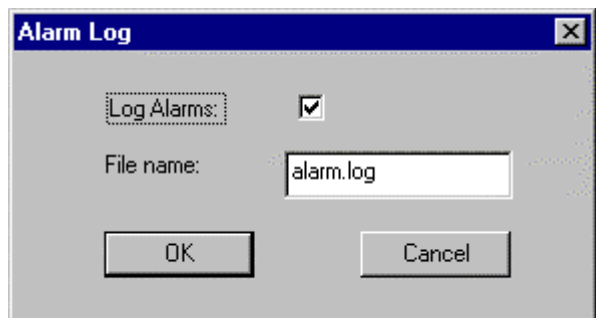

Figure 4.5 Alarm Log dialog box.
Step 4. Configure Alarm Log: From the Configure menu, select Alarm Log, a dialog box as shown in Figure 4.5 will appear on your screen.